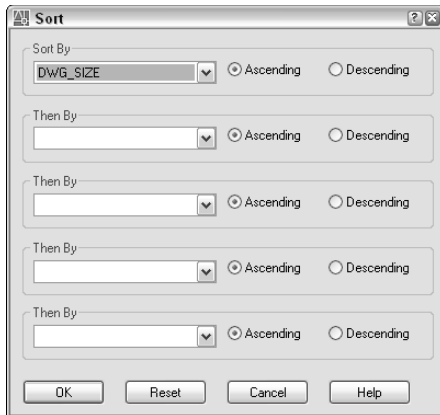

Figure 20-6: Use the Sort dialog box to temporarily sort your data in the Data View window.
- ♦ **Sort records:** You can sort records in ascending (low to high) or descending (high to low) order. Sorting helps you to more easily find the records that you want. Right-click any column header and choose Sort to open the Sort dialog box, shown in Figure 20-6. In the Sort By drop-down list, choose the column that you want to sort by first. Then choose Ascending or Descending. This column may have duplicate records. If so, you may want to choose a secondary column for sorting in the Then By drop-down list. Choose Ascending or Descending for the secondary column. AutoCAD will then sort first by the first column and then by the secondary column. You can choose up to five columns to sort by.